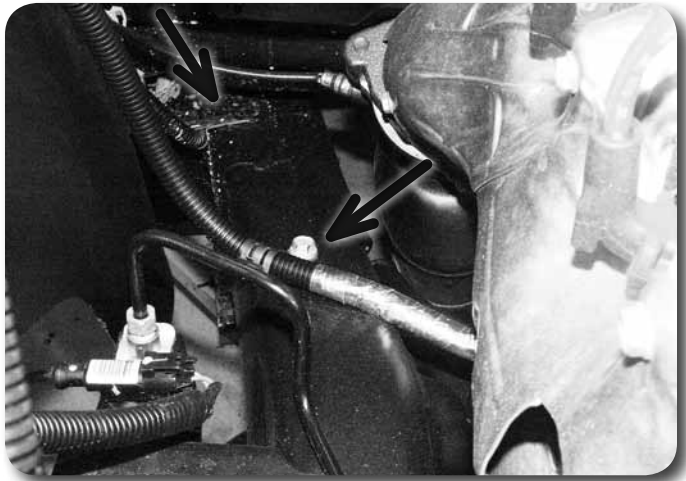

Figure 13
18. Disconnect the starter power wire and the O2 sensor wire from the top of the passenger's side frame rail near the rear of the wheel well opening Figure 13.